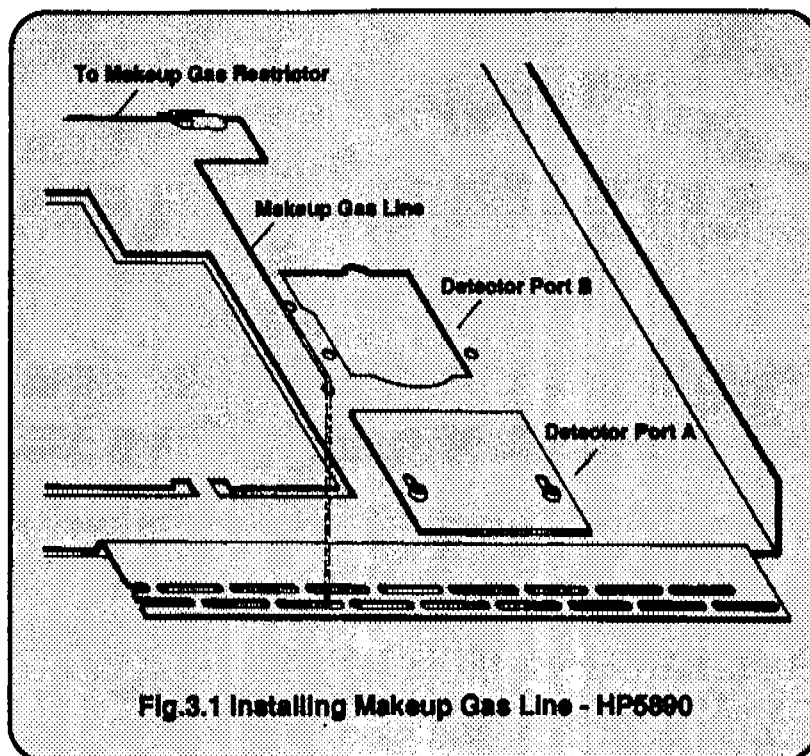

Fig.3.1 Installing Makeup Gas Line - HP5990
- For capillary columns, a make-up gas line should be supplied to the detector using a 20" length of 1/16" OD stainless steel tubing. Route the line from the flow control area on the left side of the 5890, through cut outs in the plastic at the top of the instrument, and across the top of the oven to the area of the detector. Insert 4 1/2" of line through a hole near the B port as shown in Figure 3.1, through the insulation, and through the underside make-up gas hole between the two detector ports in the top of the oven.